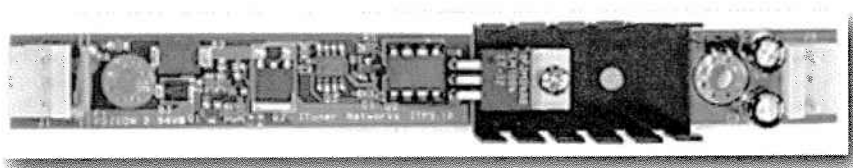

FIGURE 11-6: Mini-Box ITPS auto power sequencer and low dropout regulator.
- The Mini-Box ITPS auto power sequencer and low-dropout regulator, for enabling your Car PC to turn on and off properly when the car's ignition is switched (~\$40, shown in Figure 11-6).
- The Mini-Box ITPS auto power sequencer and low-dropout regulator, for enabling your Car PC to turn on and off properly when the car's ignition is switched, shown in Figure 11-6 (~\$40).